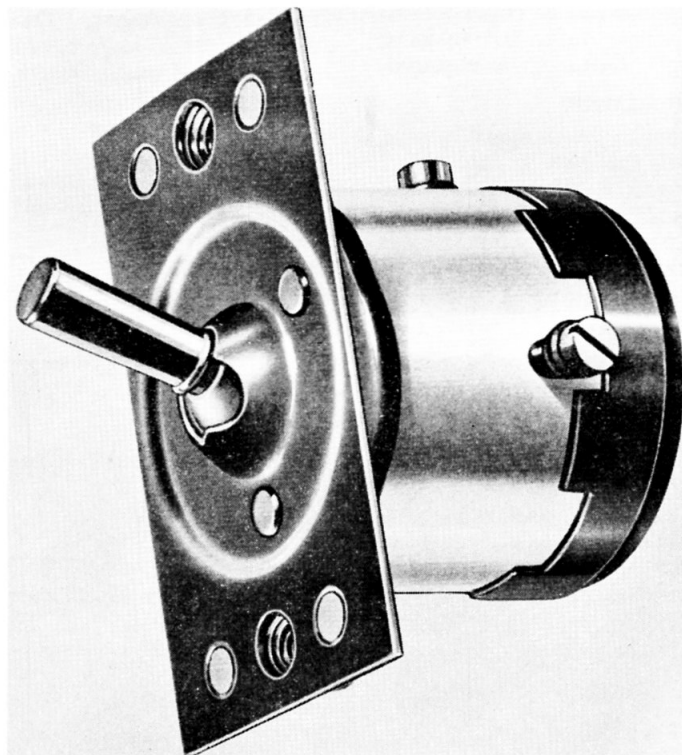

Fig. 1. Type D3507 switch
1. The type D3507 manually operated switch (fig. 1) has three separate lock-on positions and a central off position. Two positions have single pairs of contacts while the third position has two pairs in parallel with two terminals.